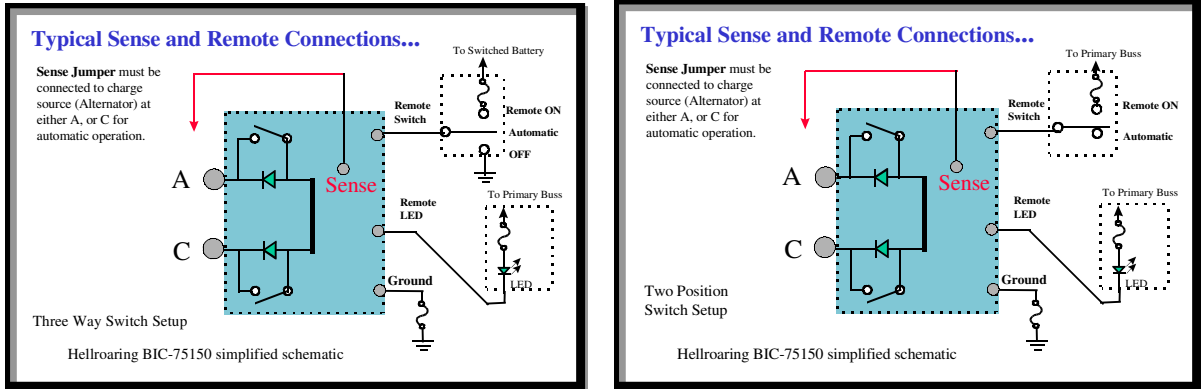

Figure 1
- 11) If you desire to use the **remote switch or remote LED**, make those connections at this time. If you purchased the optional **Remote Module**, follow the instructions provided with that package then go to step 9. For reference, the LED "short lead" is the cathode and should be connected to the Remote LED terminal. The long lead is connected to a **fused** 12 volt source. Refer to Figure 1 for the typical connections.